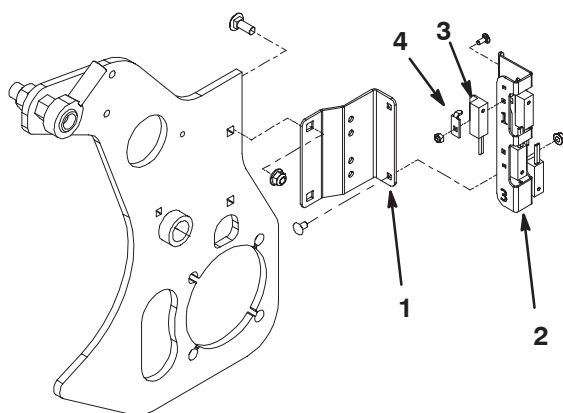

Figure 1
4. On the right side of the frame, locate the switch brackets mounted behind the right wheel motor (Fig. 1).
5. Remove the (2) carriage bolts and nuts securing the switch bracket to the frame (Fig. 1).
6. Remove the screws, switch tabs and nuts securing the switches to the switch mount (Fig. 1). Remove the switches from the switch mount.
7. Remove the (2) carriage bolts and nuts securing the switch mount to the switch bracket (Fig. 1). Discard the aluminium switch mount but retain the switch bracket.
8. Reinstall the switches to the switch mount with the screws, switch tabs and nuts previously removed (Fig. 1).
10. Secure the switch bracket to the frame with the (2) carriage bolts and nuts previously removed (Fig. 1).